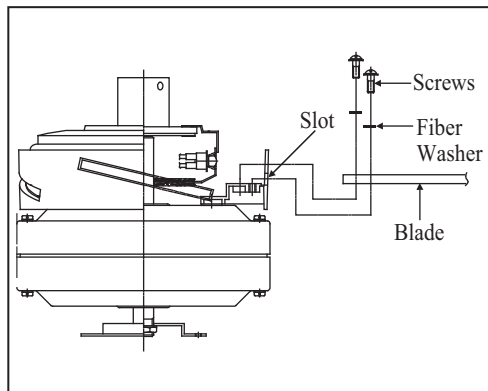

Figure 5
1. Insert the blade through the slots in the top housing. Align the holes from the blade to the holes from the top housing and secure in place with screws provided. (Figure 5)